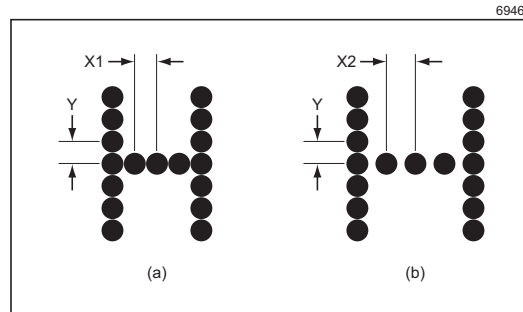

Figure 59. Distance between drops in a message
In Figure 59(a) the letter “H” is printed at an ideal Print Width—the horizontal spacing (X1) is equal to the vertical spacing (Y). In Figure 59(b), the Print Width is larger than the ideal Print Width—the horizontal spacing (X2) is larger than the vertical spacing (Y).